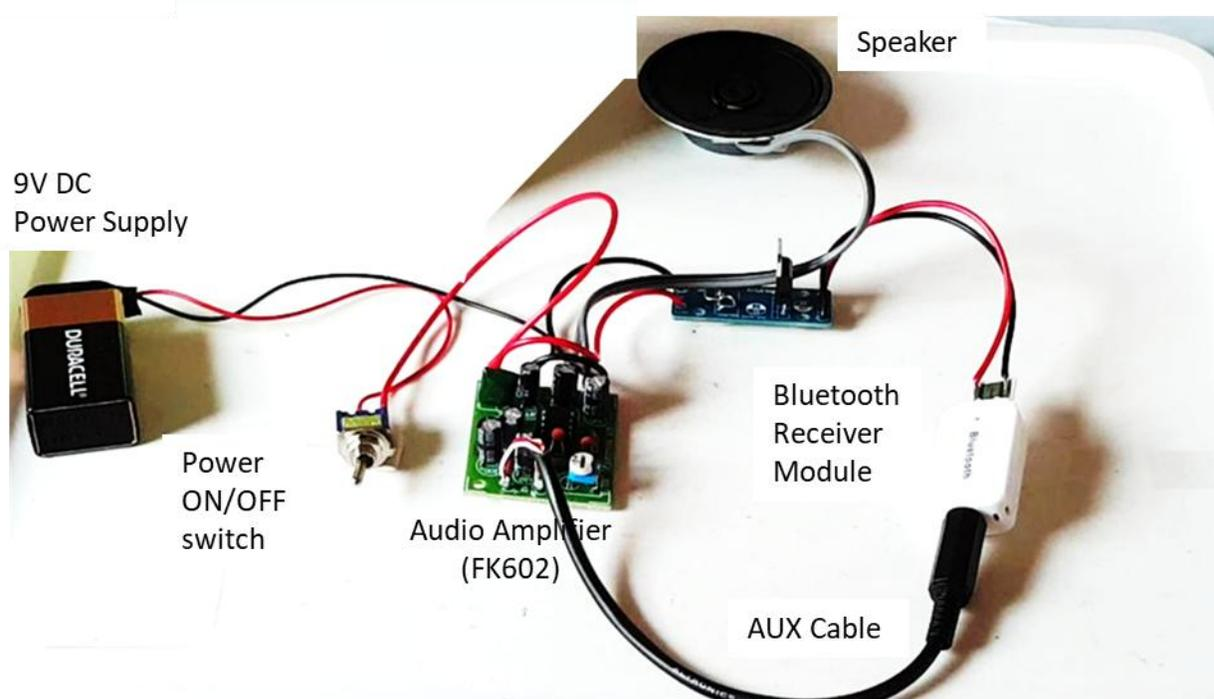

Figure 2: The 6 major components within the Bluetooth Speaker System
For this system to work well and reliably, there are 6 key parts which need to be considered and assembled correctly. (Refer to Fig 2). These 6 parts are:
- Refer to Figure 2. which shows a completed Bluetooth Receiver Module
- Refer Figure 2 for an example.